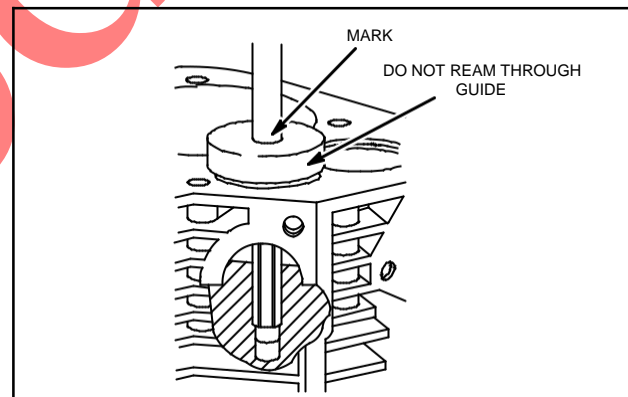

Fig. 12 – Counterbore Valve Guide
5. Turn reamer clockwise until mark on reamer is flush with top of guide bushing, Fig. 12.